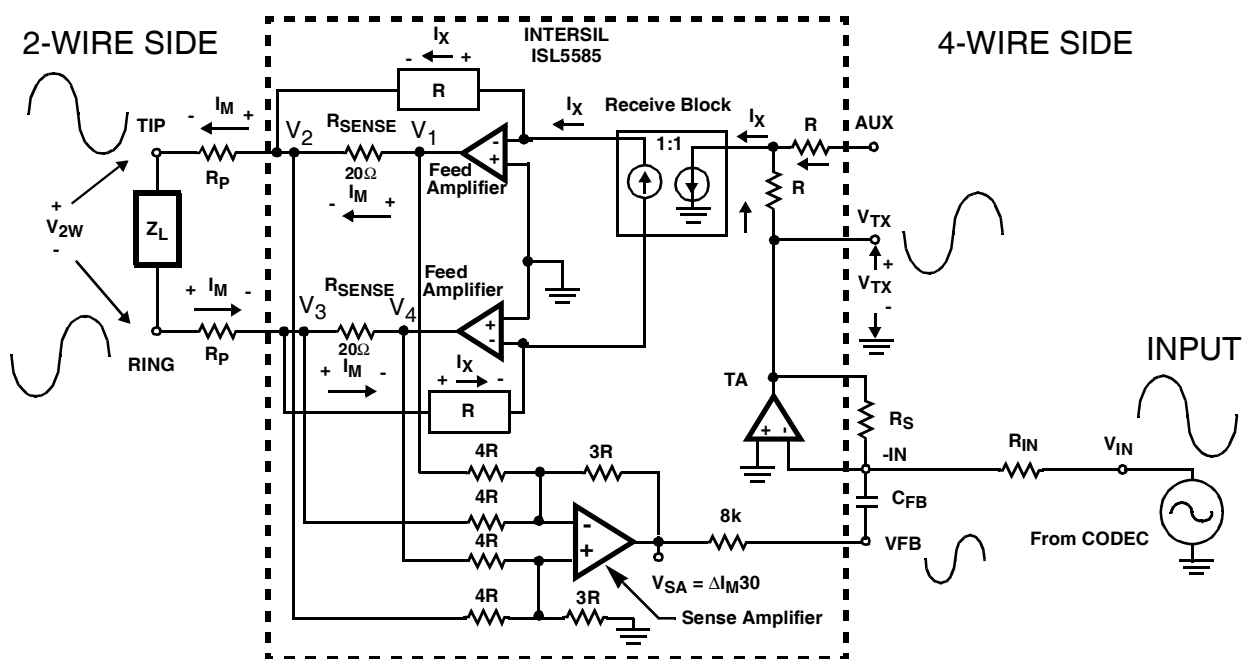

FIGURE 6. 4-WIRE TO 2-WIRE SIGNAL PHASE ACROSS THE ISL5585
Figure 6 illustrates the phase of the input signal across the ISL5585 when the signal is applied at the -IN pin of the ISL5585 through the  $R_{IN}$  resistor. The Transmit Amplifier (TA) inverts the signal 180 degrees at the VTX pin. The feedback around the tip amplifier inverts the signal again on the tip lead. The input signal will cause AC loop current to flow through the  $20\ \Omega$  sense resistors in the direction from V1 to V2 and V3 to V4. This results in an inverted signal (referenced from tip) on the VSA and thus the VFB pin. This out of phase signal is the signal used by the feedback path to match the line impedance of the 2-wire side.